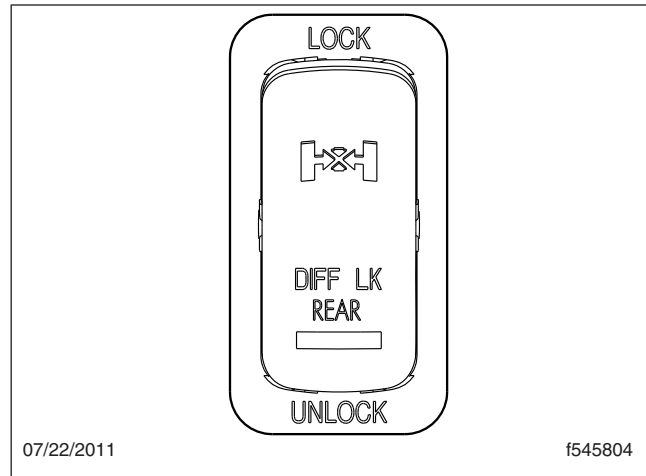

Fig. 16.2, Rear Drive Axle Differential Lock Switch
- a switch to control the differential lock on the rear drive axle (see Fig. 16.2).